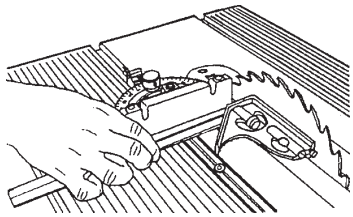

Figure C-50
50. Put the miter gauge in the right slot and place the combination square against the saw blade and miter gauge face, as seen in Figure C-50.